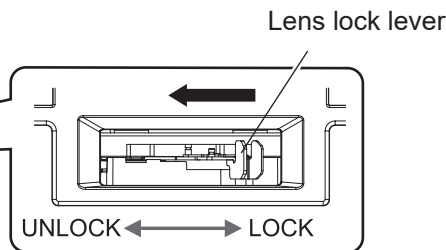

Fig. 4
3) While holding the projection lens, pinch the lens lock lever and turn to the Unlock side. (Fig. 4)